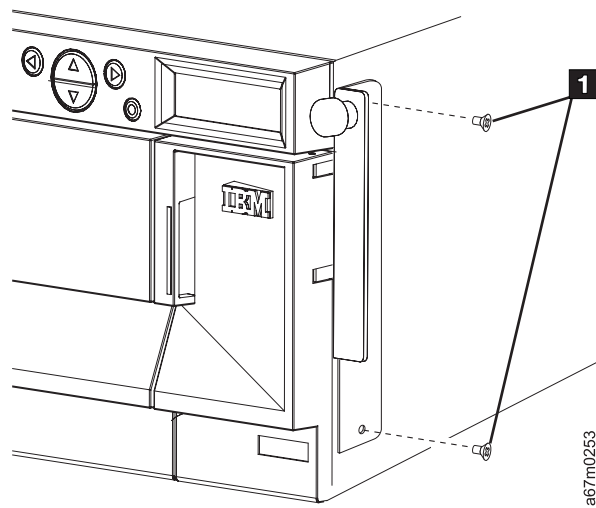

Figure 34. Installing the mounting brackets
8. Align the library's Right Mounting Bracket (part number 18P7712) at the right front corner of the library, aligning the holes with the second hole from the top of the library and the second hole from the bottom of the library. Attach the bracket using two M3 x 6 flat head Phillips screws (see **1** in Figure 34). Repeat for the Left Mounting Bracket (part number 18P7710), attaching it to the left front corner (this bracket has three holes, one of which is a clearance hole for a screw head).